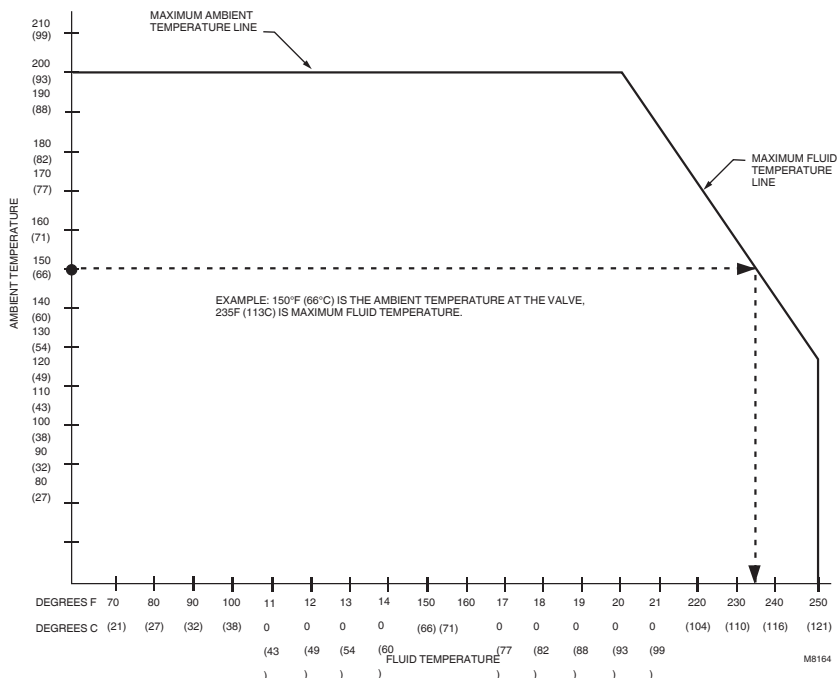

Fig. 1. Maximum temperature characteristics of valves.
The valve location should be in an area where the temperature does not exceed the maximum valve operating temperature as shown in Fig. 1. The maximum valve operating temperature depends on the maximum ambient temperature at the valve location and the maximum fluid temperature. Using the graph in Fig. 1, the maximum valve operating temperature can be found as follows:
3. Draw a line from this point down to the fluid temperature scale to find maximum operating temperature. (Note the example, shown by the dashed line in Fig. 1).